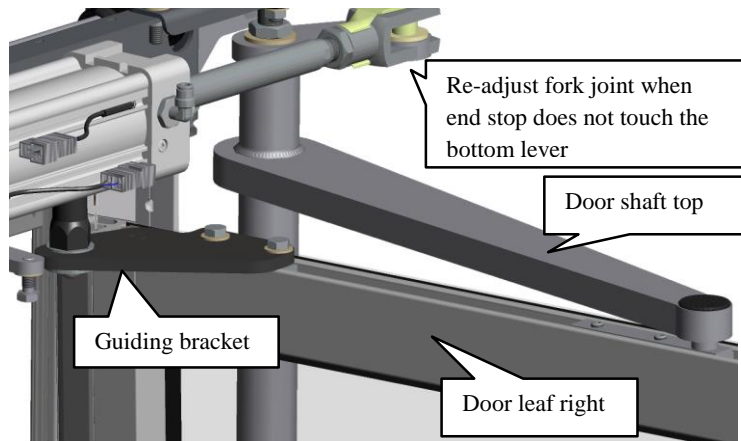

Figure 1.11: Adjustment of the fork joint and guiding bracket
3.	Check if in a fully closed position with pressure, the rubber end stop touches the bottom lever. If not, then re-adjust the fork joint length as shown in figure 1.11.